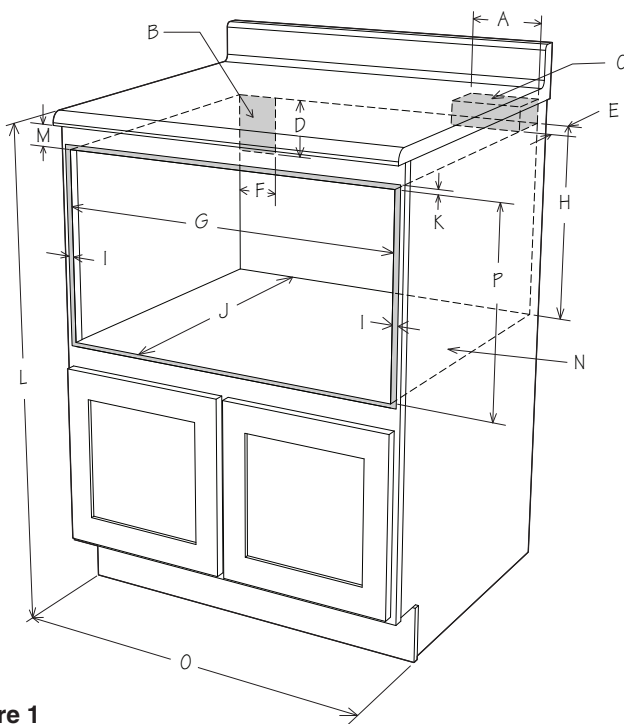

Figure 1
For **SAFETY CONSIDERATIONS** do not install drawer in any combustible cabinetry, which is not in accord with the stated clearances and dimensions on pages 2 - 5. See Figures 1 - 7.
- Dimensions that are shown in Figure 1 must be used. Given dimensions provide minimum clearance. Locate electrical outlet in the shaded area in the upper left-hand corner of the cutout. See Figure 9.
Figures 1 and 2 contain many Microwave Drawer measurements for reference when planning the drawer's location.
To reduce the risk of tipping of the drawer, the Anti-Tip block must be properly installed located 14 ¹³/₁₆-inches above the floor on which the Microwave Drawer will sit. The 6-inch Anti-Tip block must be provided by the installer. See Figure 1. The Anti-Tip block prevents serious injury that might result from spilled hot liquids.